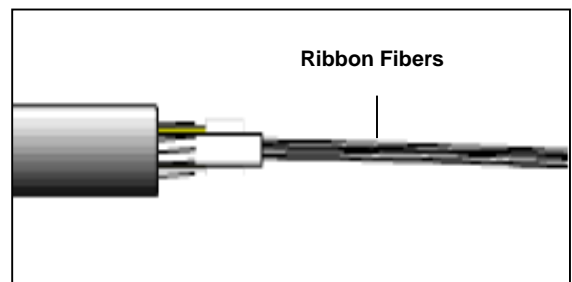

Figure 3
7.4.6 Carefully slide the tube, strength elements and jacket off to fully expose the ribbon fibers (Figure 3).